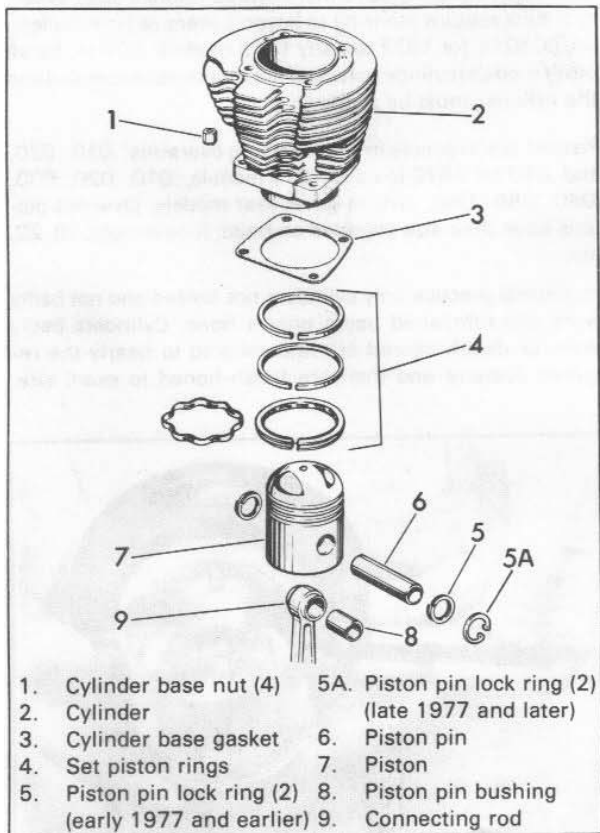
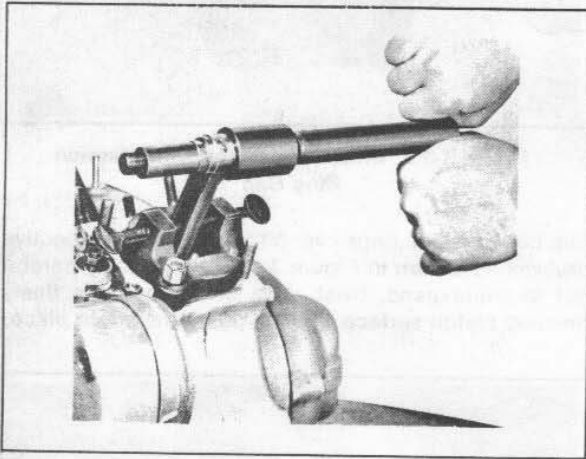

Figure 3-12. Cylinder and Piston - Exploded View
Figure 3-19. Installing New Connecting Rod Bushing
## REMOVING (Figure 3-12)
See Figure 3-12, and proceed as follows: Clean crankcase around cylinder base to prevent dirt from falling into crankcase when lifting cylinders. Remove cylinder base stud nuts (1). Raise cylinder and piston just high enough to permit placing a rag over crankcase opening; this will prevent dirt and possibly pieces of broken ring from falling into crankcase. With piston at bottom of stroke, remove cylinder (2), discard cylinder base gasket (3). Using a piston ring expander (Figure 3-19) spring piston rings (4) outward until they clear grooves in piston (7) and lift off. Remove piston pin lock rings (5, 5A) from piston (7) groove. For 1976 and earlier models, use two sharp pointed instruments such as awls to remove ring. For 1977 and 1978 models, use Internal Lock Ring Pliers, Part No. 96215-49. Support piston and tap out piston pin (6) with a suitable drift.
When removing bushings in connection with only a top overhaul, use special tools as shown in Figure 3-19, Bushing Tool, Part No. 95970-32A, and Connecting Rod Clamping Fixture, Part No. 95952-33.
#### ASSEMBLING CYLINDER AND PISTON (Figure 3-12)